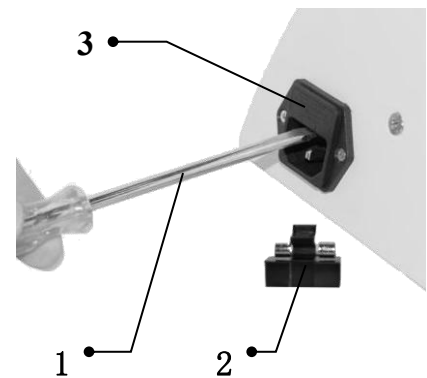

Figure 17
This instrument fuse is used to light for transmitted lighting system, fuse₃ is integrated at the input power adapter of host, as figure 17.
- (1) Turn off the power switch 1, and unplug the power cord 2, as figure 17.
- (2) Take out fuse basement 2 by flat screwdriver 1 as image shows, then take off broken fuse and insert new fuse, out the fuse basement back to host input power adapter.
- (3) Re connect power to check if it works well.